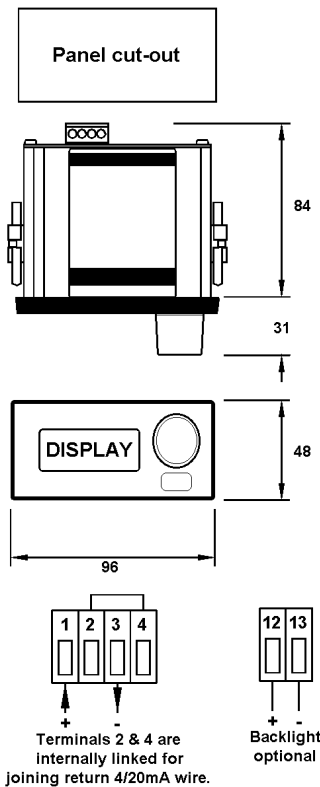

Fig 3 BA505C dimensions
Fig 3 shows the enclosure dimensions and the recommended panel cut-out dimensions.
- c. Connect the panel wiring to the rear terminal block(s) as shown in Fig 3. To simplify installation, the terminals are removable so that the panel wiring can be completed before the instrument is installed.